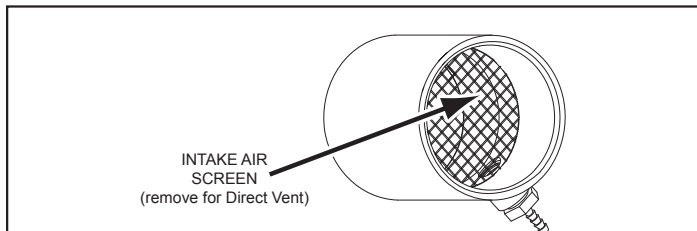

Figure 18. Intake Air Screen
13. Ensure the Intake Air Screen on the Intake Air Connection to the water heater is removed before connecting the intake air pipe to the water heater. See *Figure 18* (page 25).